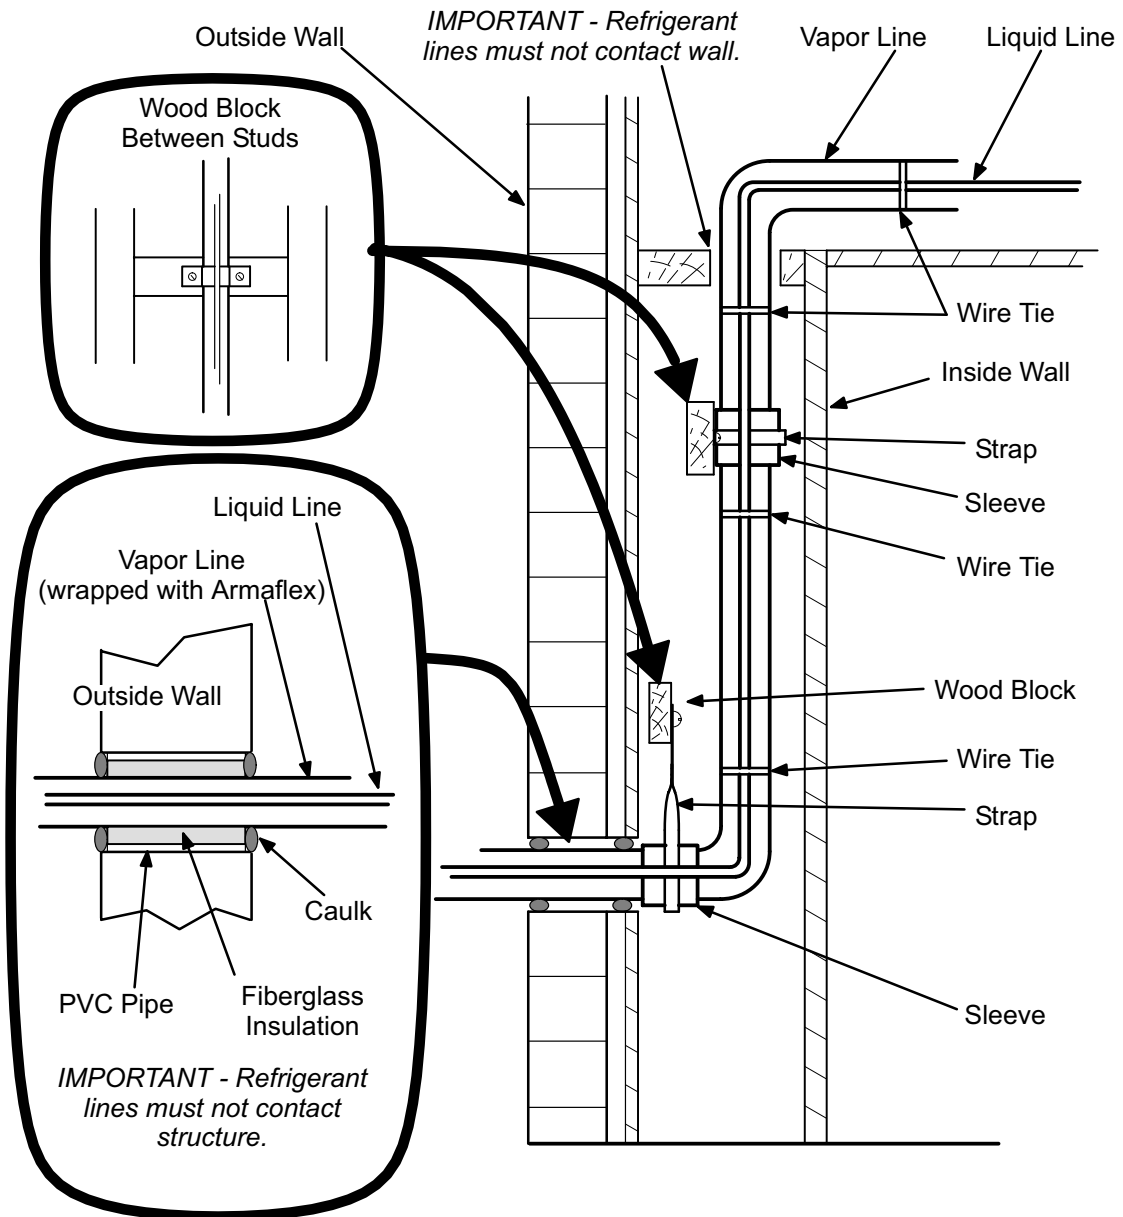
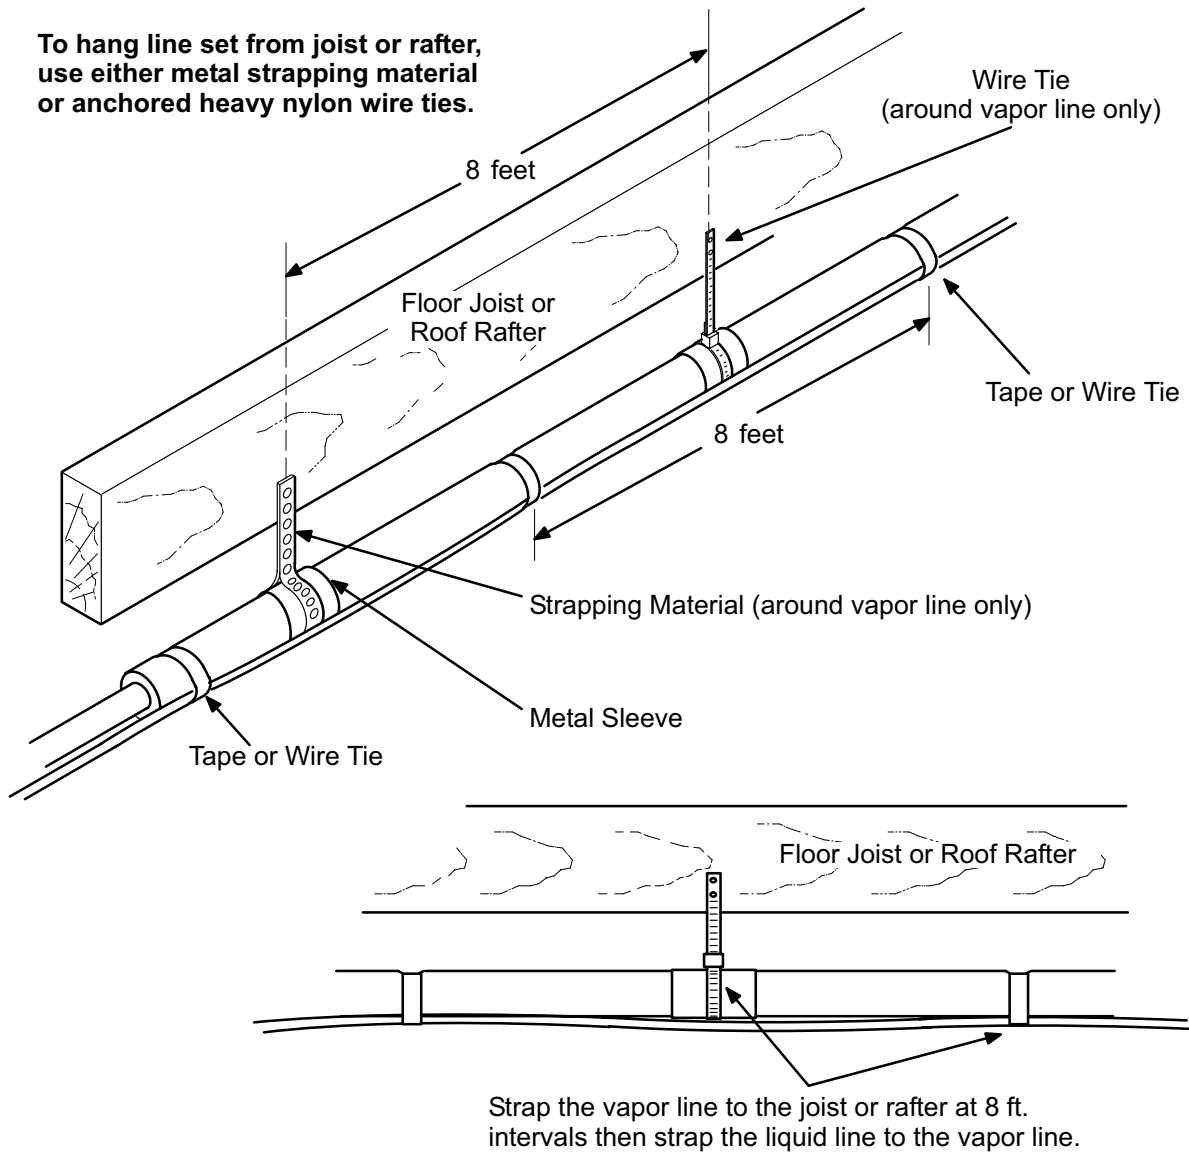
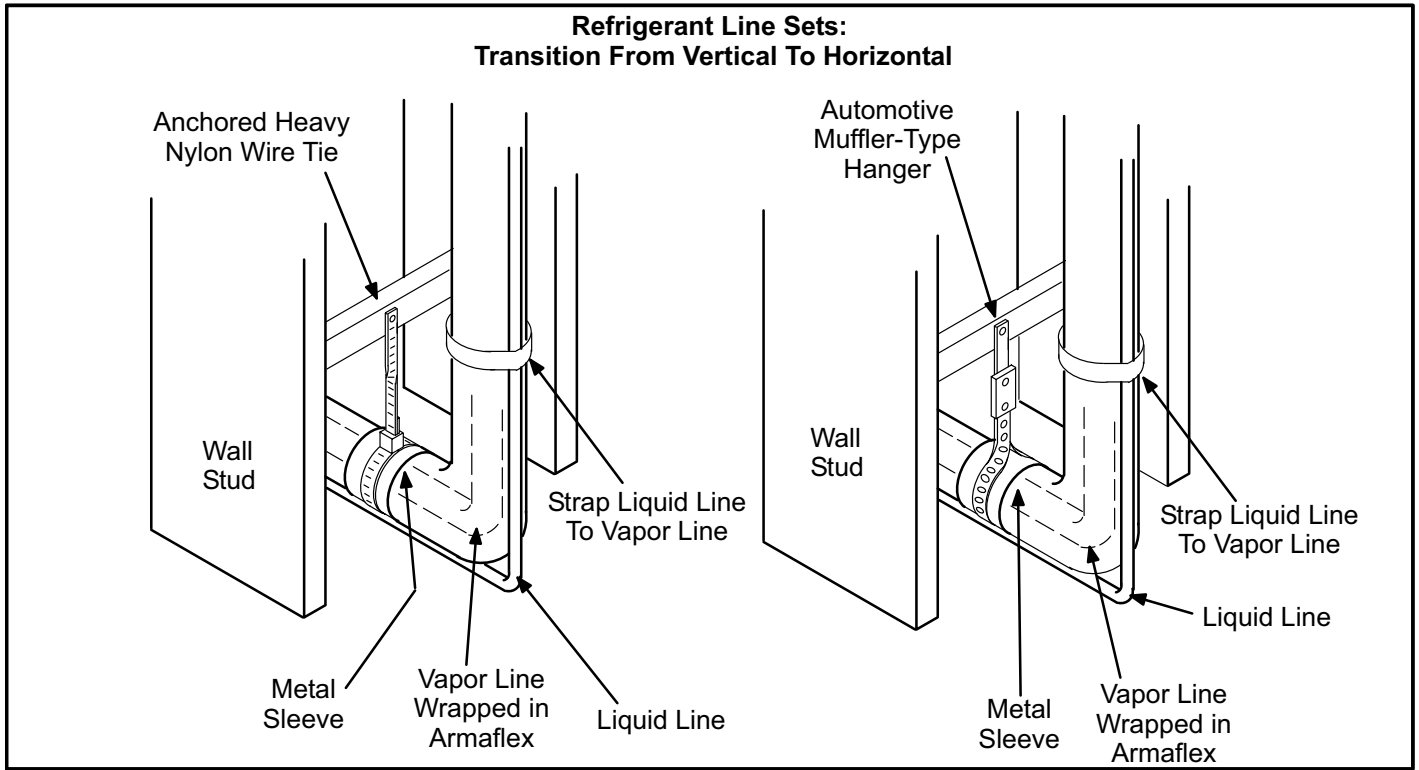
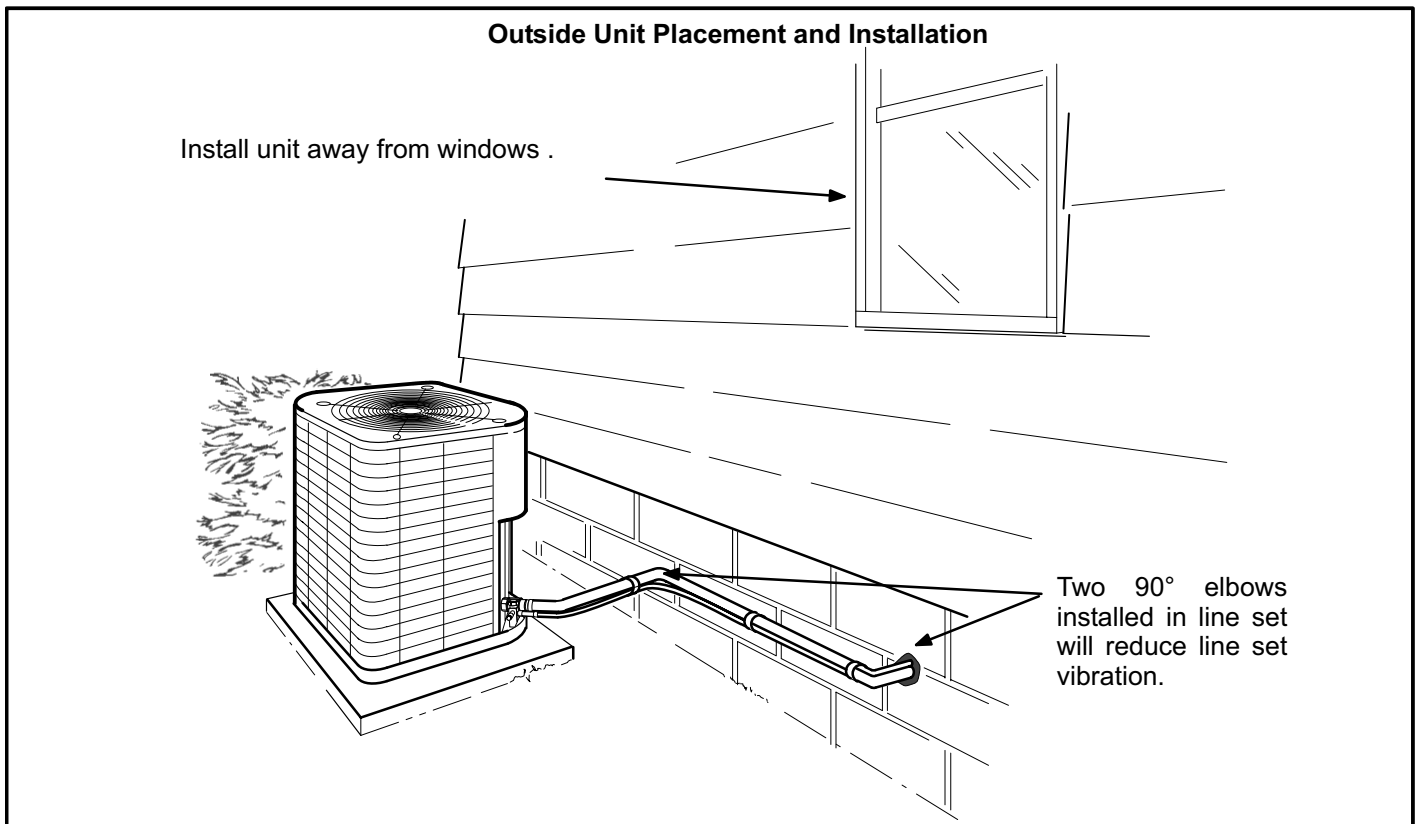

Figure 7
Figure 8
Figure 9
Figure 10
- 2- Line Set Isolation** - The following illustrations demonstrate procedures which ensure proper refrigerant line set isolation. Figure 7 shows how to install line sets on vertical runs. Figure 8 shows how to install line sets on horizontal runs. Figure 9 shows how to make a transition from horizontal to vertical. Finally, figure 10 shows how to place the outdoor unit and line set.